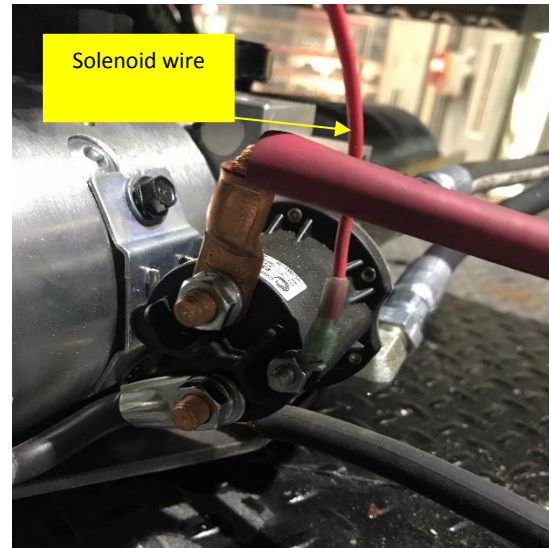

Figure 7
7. Connect the ring terminal of the solenoid wire (**ITEM 15**) onto the stud on the solenoid. Route and secure the solenoid wire along the newly installed hydraulic hoses down to the white wire on the **Hydra Flaker** cable harness at the valve block labeled 'Dump Valve'. Cut off any excess wire from the end to route it along the hoses. Cut the labeled white wire and use the provided butt connector (**ITEM 16**) to splice the solenoid wire onto the white wire. **Figures 7, 8 & 9**